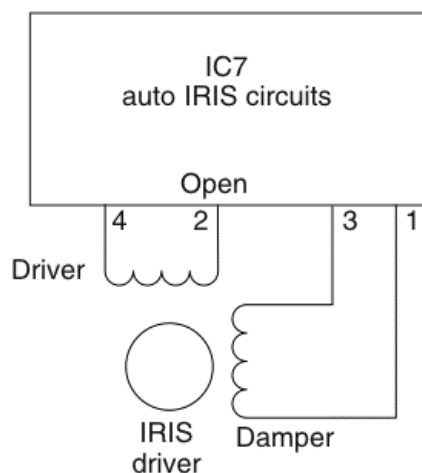

FIGURE 36-35 A block diagram of the auto iris circuits.
The auto iris circuit operates the lens iris to maintain the optimum average video signal level (Fig. 36-35). The luminance (YE) and wide blanking (W.BLK) signals control the